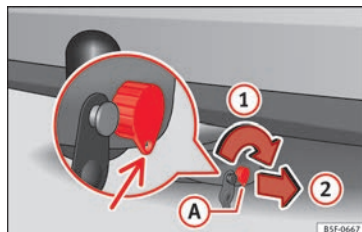
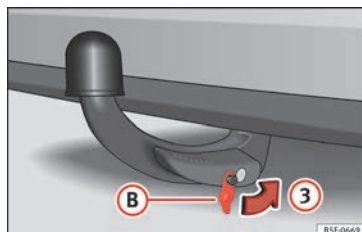

Fig. 237 Locking the lock.
Fig. 238 Placing the cover over the lock.
- Turn key **A** in the direction of arrow ① until the part of the key with the holes reaches the bottom position » **Fig. 237**.
- Remove the key in the direction of arrow ②.
- Place cover ① in the lock in the direction of arrow ③ » Fig. 238 » ①.